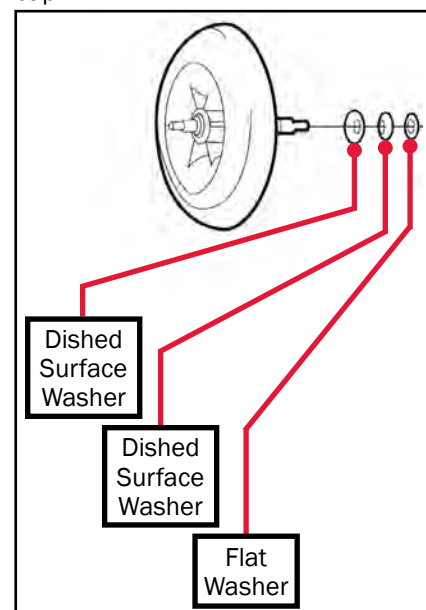

Figure 127
NOTE: Be sure to observe the placement of the three washers of the bearing kit. To ensure proper tension, the same order and direction of the dished surfaces of the washers must be followed when reassembling. See Figure 127.
- Reference Figure 127 for exact placement of the three washers that slide over the threaded end of the combustion air blower's shaft prior to installation. Failure to follow the correct order and direction of the dished surfaces on the washers will result in a restricted rotation of the combustion air blower.